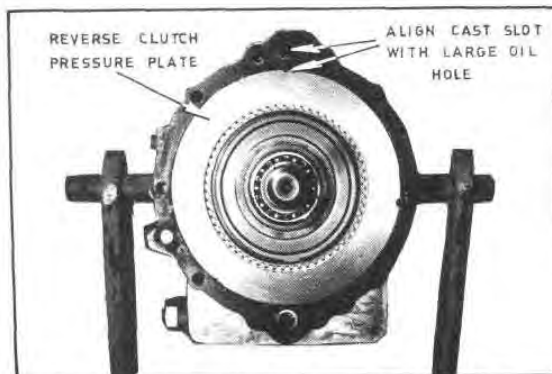

Fig. G78 — Reverse Clutch Pressure Plate Installed
43. Install the reverse clutch pressure plate with the twelve (12) holes in the downward position. Align the cast slot in the pressure plate with the large hole in the front face of the transmission case (Figure G78). This is required to properly position the spring holes in the pressure plate with the springs and dowel pins. If the plate does not drop into position approximately flush with the case, check the three (3) dowel pins for misalignment.